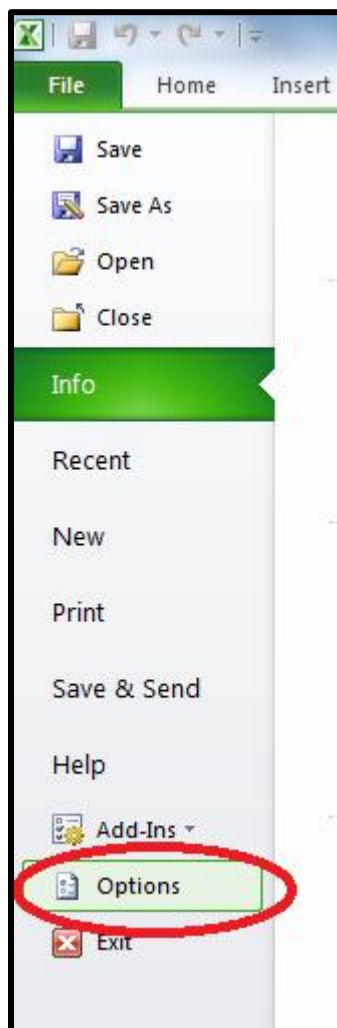

Figure 8 - File Options
- Click **File** tab, select **Options** (see Figure 8)